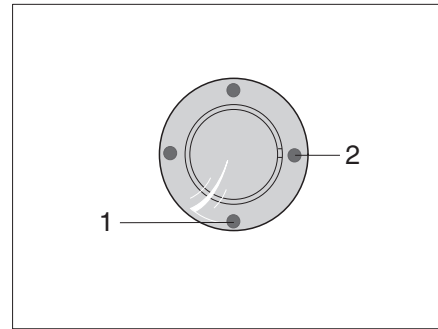
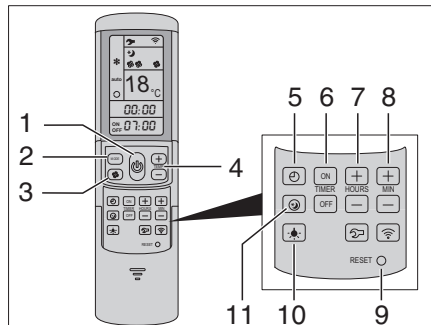

Fig. 307 Infrared receiver/function display
Fig. 308 Remote control
The air conditioning unit is located on the roof of the vehicle. The remote control (Fig. 308) for the air conditioning unit is located in the kitchen area.
- Connect the vehicle to the 230 V power supply. The air conditioning unit is ready to operate. The blue LED (Fig. 307,1) lights up.
- To switch on press the button (Fig. 308,1) on the remote control. The blue LED (Fig. 307,1) flashes.
- Set the desired operating mode using the MODE button (Fig. 308,2).
- If necessary, set the desired fan level by using the button (Fig. 308,3) and the room temperature by using the buttons (Fig. 308,4).
When the temperature set on the remote control is reached, the blue LED (Fig. 307,1) goes out, the compressor switches off and the circulation fan continues to run.
- To switch off press the button (Fig. 308,1) on the remote control again.
- To carry out programming, switch on the air conditioning unit by using the button (Fig. 308,1) on the remote control.
- Set the desired operating mode by using the button (Fig. 308,2) and the room temperature by using the buttons (Fig. 308,4).
- Use the buttons (Fig. 308,6) to select the desired function:
- Use the buttons (Fig. 308,7 and 8) to select the desired switching time (15 minutes to 24 hours).
- Confirm the setting with the buttons "ON" or "OFF" (Fig. 308,6).